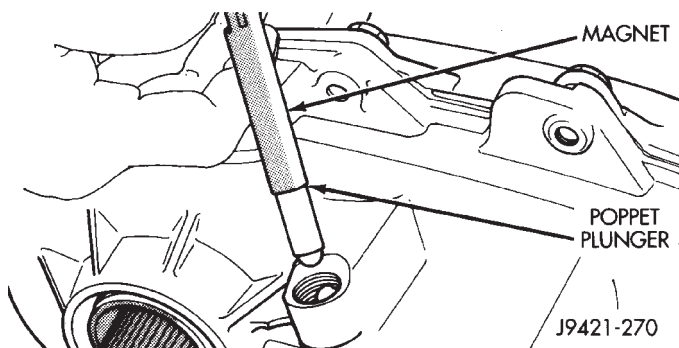

Fig. 33 Poppet Plunger Removal
- (4) Remove poppet plunger with magnet (Fig. 33).